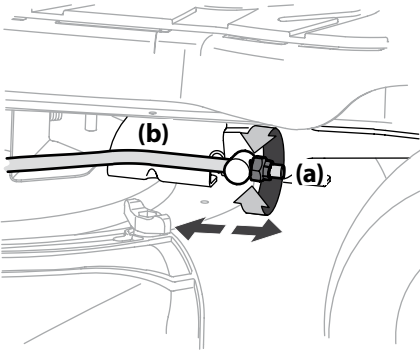

Figure 4-4
3. Locate the flange lock nut (a) on the front end of the PTO lift rod (b). See Figure 4-4.